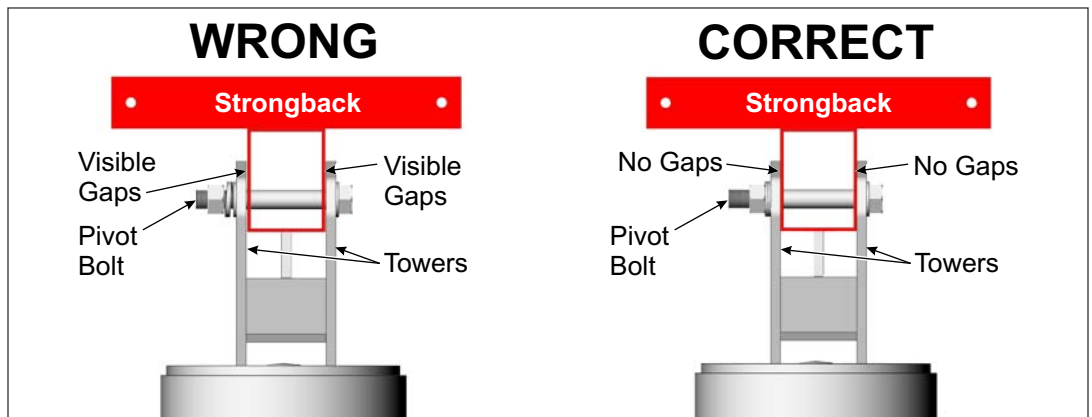

Figure 6-3: Tighten and Torque the Pivot Bolt
- C. Re-tighten the Pivot Bolt. After changing the tilt angle and tightening the Support Bar hardware, the Pivot Bolt must be re-tightened. The Pivot Bolt cannot be left loose - the Mounting Sleeve Vertical Towers must be firmly clamped to the sides of the Strongback eliminating any gaps between the Vertical Towers and the Strongback. **Torque to 125-150 ft.-lbs.** (See Figure 6-3)